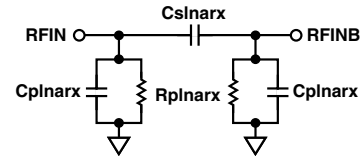

Figure 1. LNA Lumped-Element Model, Rx Mode
Figure 1 shows the assumed lumped-element model of the LNA input. The simplified model reflects the measured port impedance values with an equivalent circuit of the lowest possible complexity. A section with results is given for both high sensitivity mode (LNAGAIN = 30) and low current mode (LNAGAIN = 10).
Table 1 lists the component values of the equivalent circuit shown in Figure 1 applicable for Rx mode and LNAGAIN = 30 ([R9.DB20, R9.DB21] = [1,0]).
Table 1. Elements of LNA Equivalent Circuit (Figure 1) in Rx Mode, LNAGAIN = 30
Table 3 lists the component values of the equivalent circuit shown in Figure 1 applicable for Rx mode and LNAGAIN = 10 ([R9.DB20, R9.DB21] = [0,1]).
**Table 3. Elements of LNA Equivalent Circuit (Figure 1) in Rx Mode, LNAGAIN = 10**